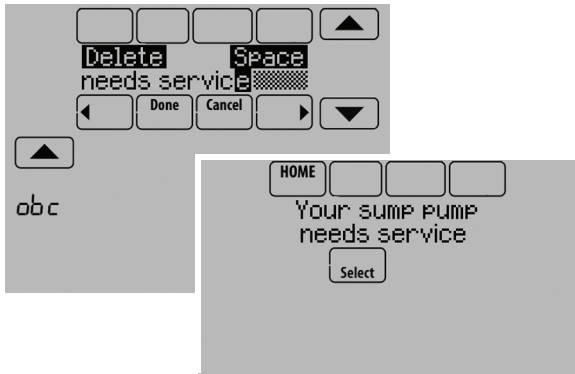

Fig. 161.
- If you are creating a custom alert, type the alert name and press Done. The alert name is what appears on the Home screen when the alert is detected. See Fig. 161. You can edit or confirm the alert name after you enter it.